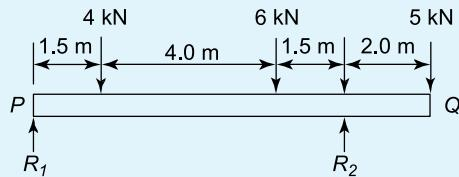

Figure 5.20
- For the simply supported beam PQ shown in Figure 5.20, determine (a) the reaction at each support (b) the maximum force which can be applied at Q without losing equilibrium.